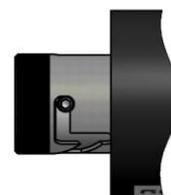

Figure. 8
4. Press the safety device and turn it clockwise to leave it in standstill or blocked position (see **Figure. 8**, page 10).
5. Press the safety device and turn it clockwise to leave it in blocked position (see **Figure. 8**, page 10).